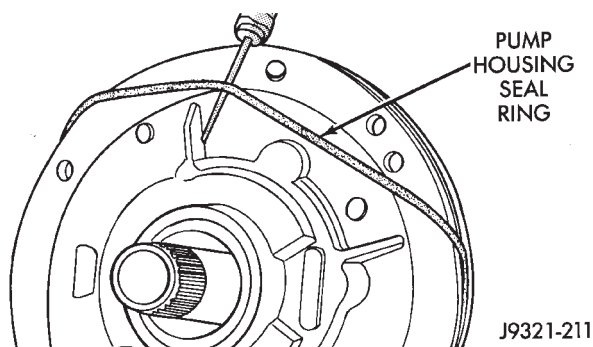

Fig. 136 Removing Pump Seal Ring
- (1) Remove seal ring from housing and reaction shaft support (Fig. 136).
- (2) Mark pump housing and support assembly for alignment reference.